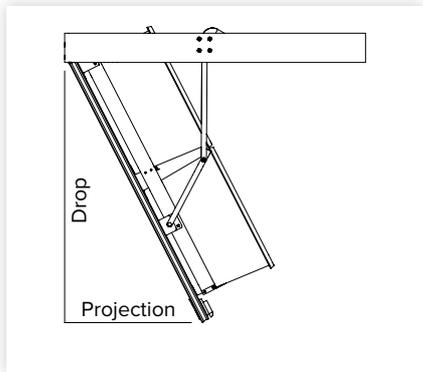

figure 7
- Allowance must be made for the drop and projection of the ceiling cupboard when unfolded (figure 7);